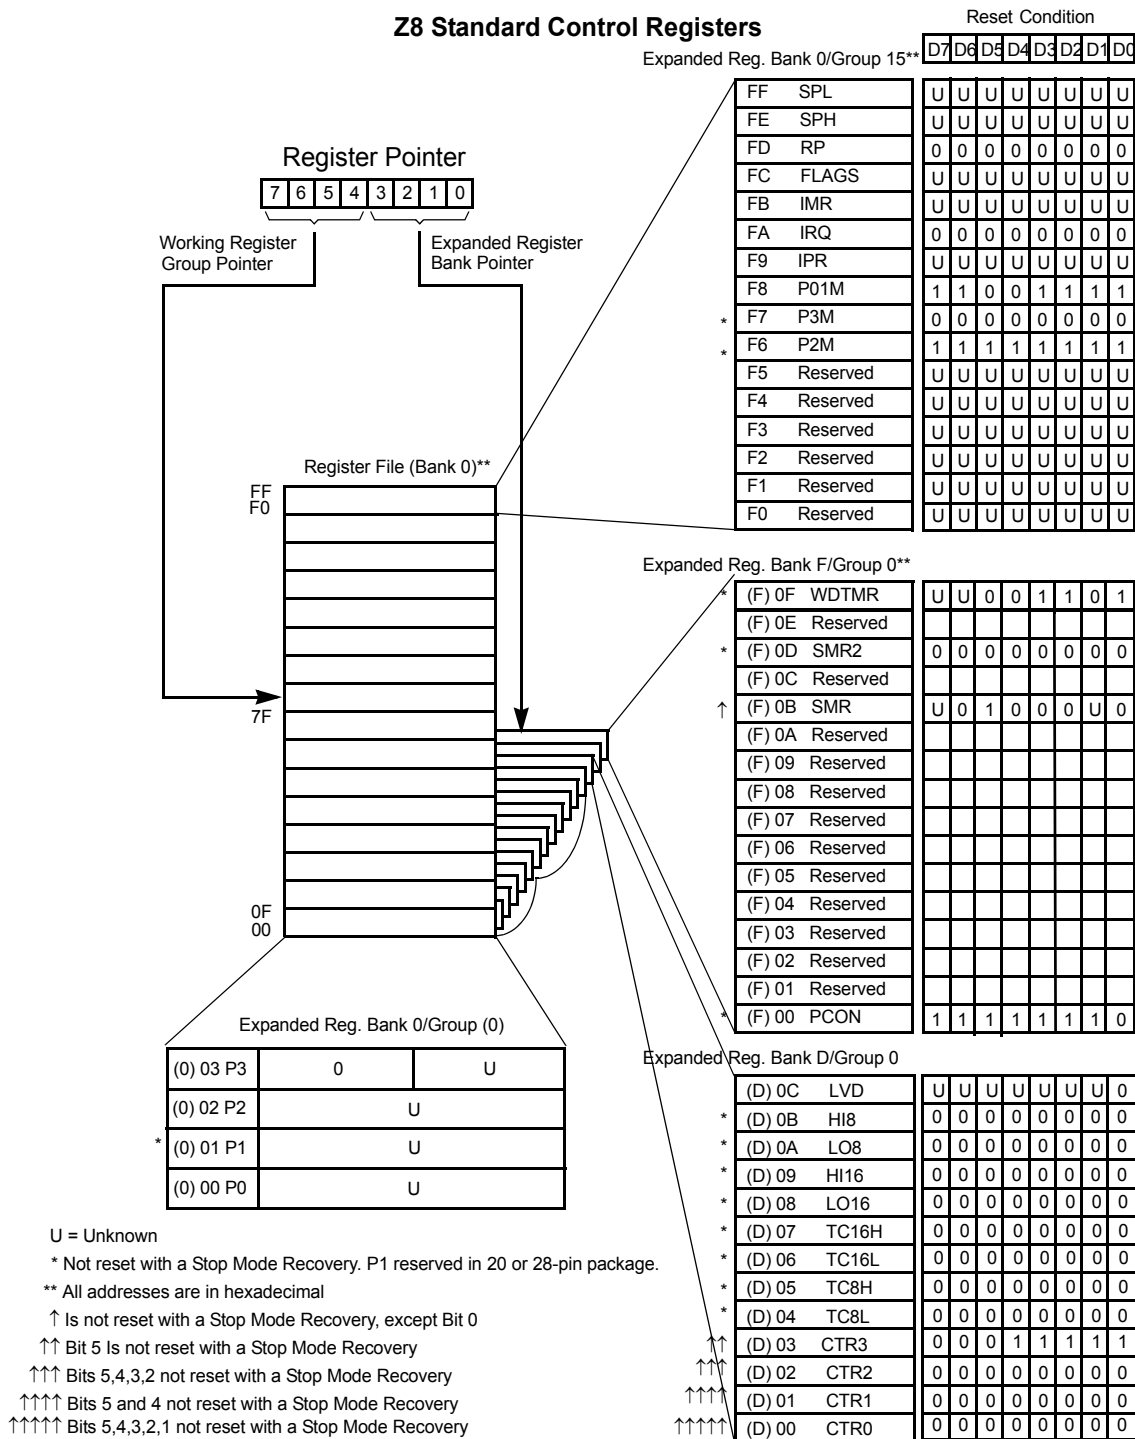

Figure 13. Expanded Register File Architecture
► **Note:** *An expanded register bank is also referred to as an expanded register group (see Figure 13).*